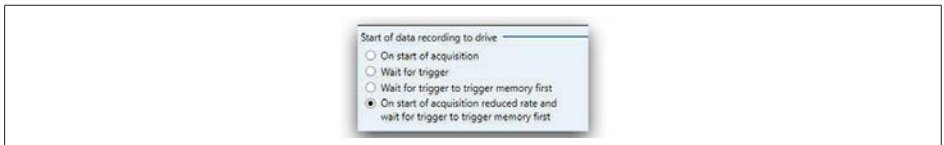

Fig. 9.30 Start of data recording to drive
- A In **Start of data recording to drive** area, select the **On start of acquisition reduced rate and wait for trigger to trigger memory first** check box (see Fig. 9.30).